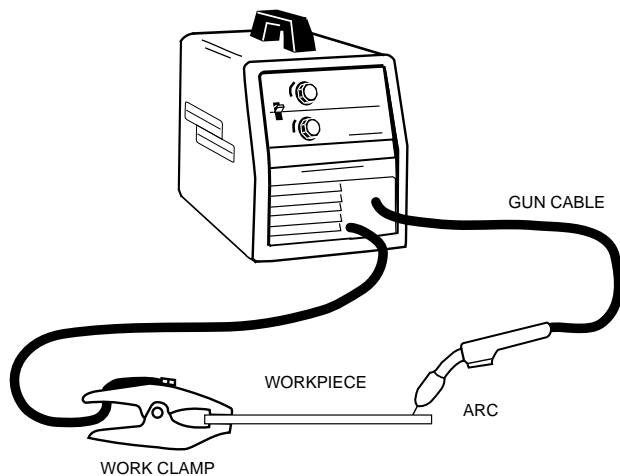

FIGURE B.7
6. Refer to Figure B.7. Connect work clamp to metal to be welded. Work clamp must make good electrical contact to the workpiece. The workpiece must also be grounded as stated in "Arc Welding Safety Precautions" in the beginning of this manual.
The OPERATORS knowledge of arc welding must go beyond the arc itself. The operator must know how to control the arc, and this requires a knowledge of the welding circuit and the equipment that provides the electric current used in the arc. Figure B.7 illustrates the welding circuit for a typical welding machine. The circuit begins where the gun cable is attached to the welding machine. Current flows through the gun cable, gun, and contact tip, to the wire and across the arc. On the work side of the arc, current flows through the base metal to the work cable and back to the welding machine. This circuit must be complete for the current to flow.